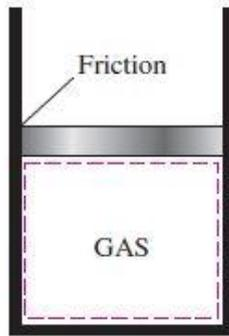

Fig.3.20 - Friction renders a process irreversible
- ▶ When two bodies in contact are forced to move relative to each other (a piston in a cylinder, for example, as shown in *Fig.3.20 - Friction renders a process irreversible*. a friction force that opposes the motion develops at the interface of these two bodies, and some work is needed to overcome this friction force. The energy supplied as work is eventually converted to heat during the process and is transferred to the bodies in contact, as evidenced by a temperature rise at the interface.